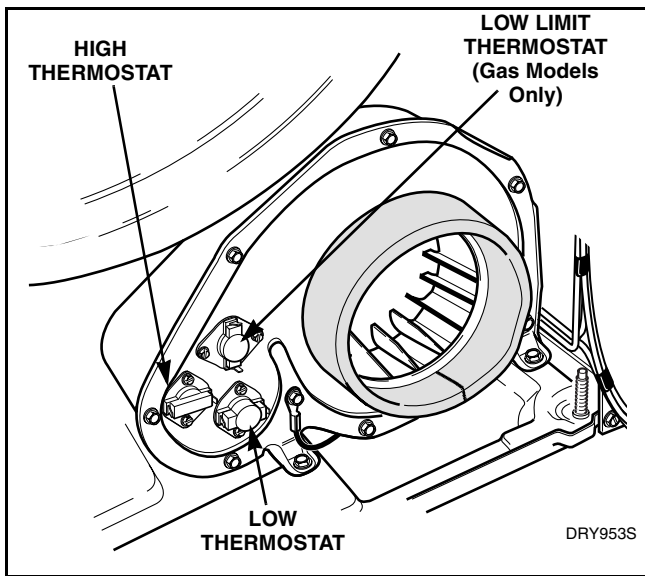

Figure 21
- b. Refer to *Figure 21* for thermostat removal.